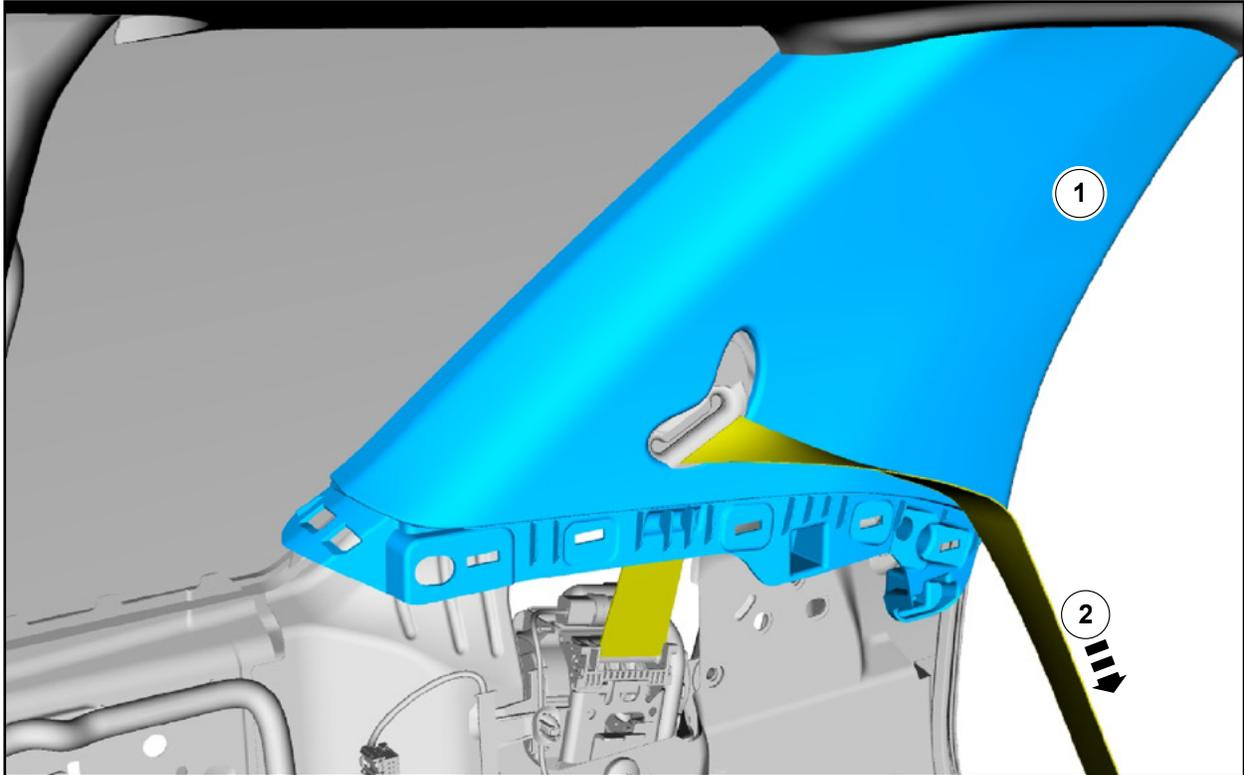

FIGURE 27
27. Position aside the LH C-pillar trim panel. See Figure 27.